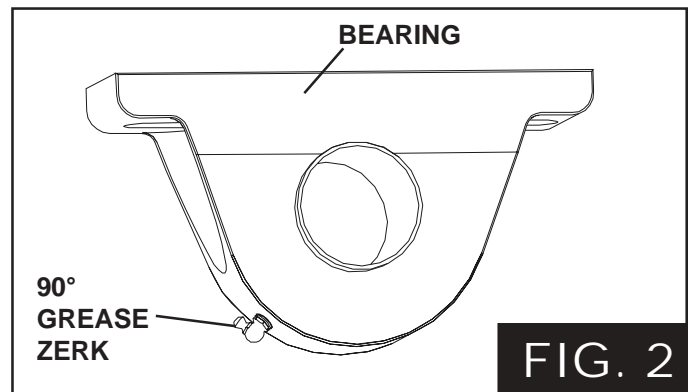

FIG. 2
4. Replace standard grease zerks with 90° grease zerks on both bearings. Make sure the 90° grease zerk is turned as shown in Figure 2, so the zerks are accessible.